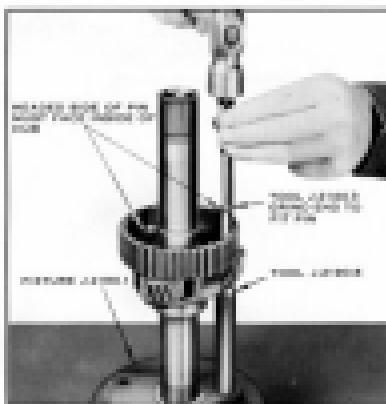

Fig. 512. Installing Planet Pin
CAUTION—The shoulder section or bowed side of pin must face the inside of the bush. (Fig. 512)
- Push driving pin up to the shoulder by placing tool J-2144-1 in center of pin. (Fig. 512)
7. Slide planet gear, needle bearings, thrust washers, planet pin and tool J-2144-2 into position in carrier aligning hole in carrier with hole in planet gear. (Fig. 512)